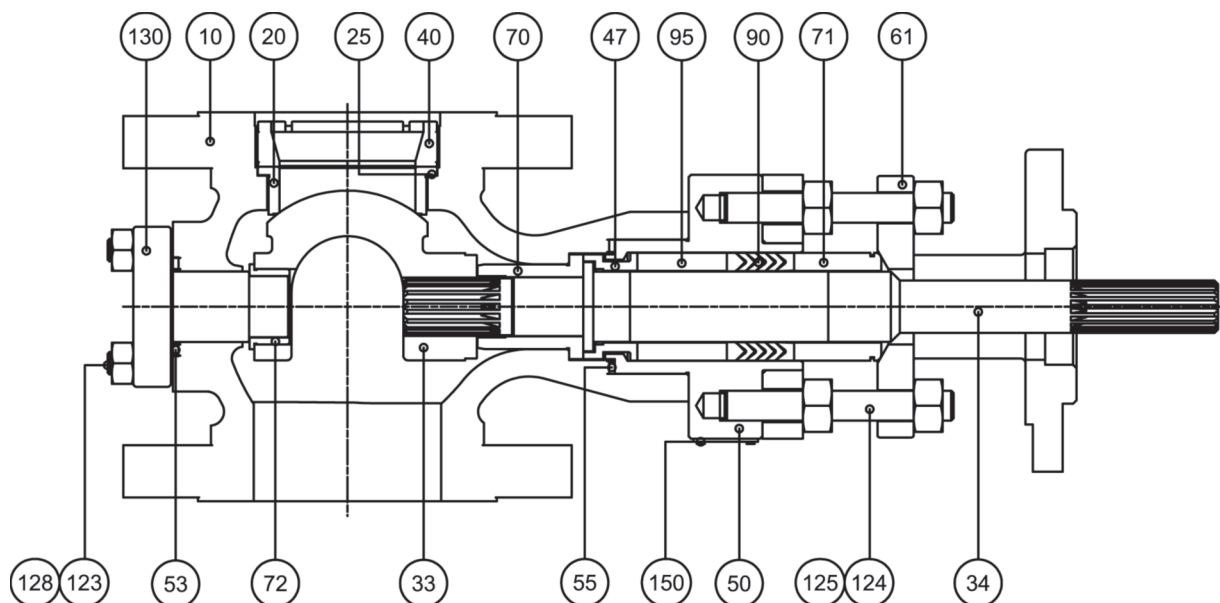

Figure 2: EXL Valve Body Sub-Assembly
For disassembling the EXL valve, refer to Figures 2, 3
To reassemble the E_XL valve body (except the seat) refer to figures 2, 3, 4 and 5 and proceed as follows:
- Install the shaft bearing, positioning it on the limiting shoulder of the body (See Figure 2).
- Position the spacers, the packing set and the packing follower in the bonnet as illustrated in Figures 2 and 5.
To reinstall the EXL valve seat, see Figures 2, 6 and 7 and proceed as follows: